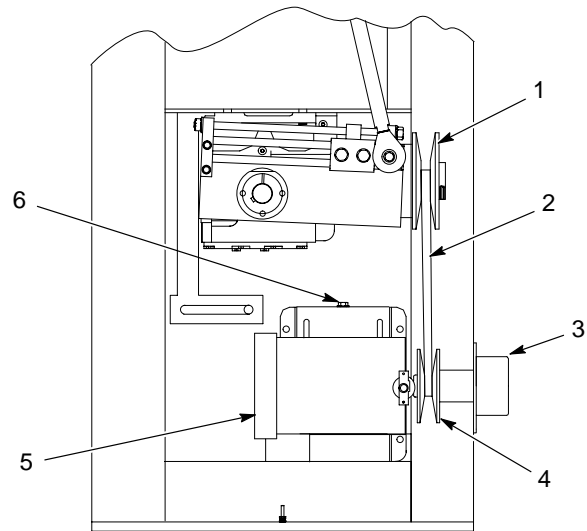

Figure 13 Drive Belt Replacement
1. See Figure 13. Start the oscillator. While the oscillator is operating, turn the speed control knob (3) clockwise as far as possible. This will cause the drive belt (2) to loosen.
6. Mark the location of the motor (5) mounting bolts on the motor mounting bracket. You will use this mark as a reference when installing the motor.
1. See Figure 13. Shut off the oscillator. Disconnect and lock out oscillator power.
4. Loosen the motor bracket adjusting screw (6) to relieve tension in the drive belt (2).
1. See Figure 13. Install a new drive belt (2) on the gear reducer sheave (1).
2. Carefully lift the motor (5) into place and slide the drive belt onto the motor sheave (4).
4. Install the torque arm onto the speed control knob (3).
1. See Figure 13. Install the new drive belt (4) onto the gear reducer and motor sheaves (1, 4).
2. Position the motor so that the belt will deflect no more than  $\frac{1}{4}$  in. Tighten the motor bracket adjusting screw (6).